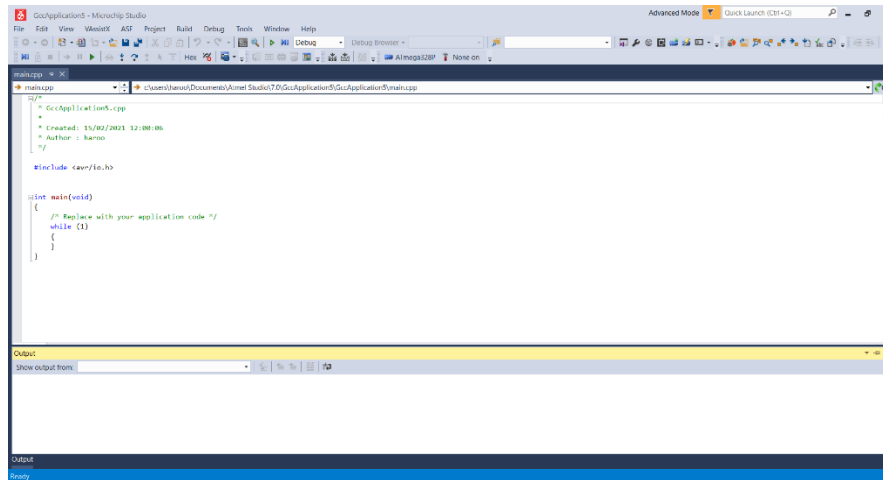

Figure 1.5 – Microchip Studio platform section wise overview
3. In the Device Selection window, select ATmega328P. Click OK to create the project as shown in figure 1.5.
- Layout shown in figure 1.5 will appear on the screen. Layout will consist of source code window and message window. Write the code given below in the source window.